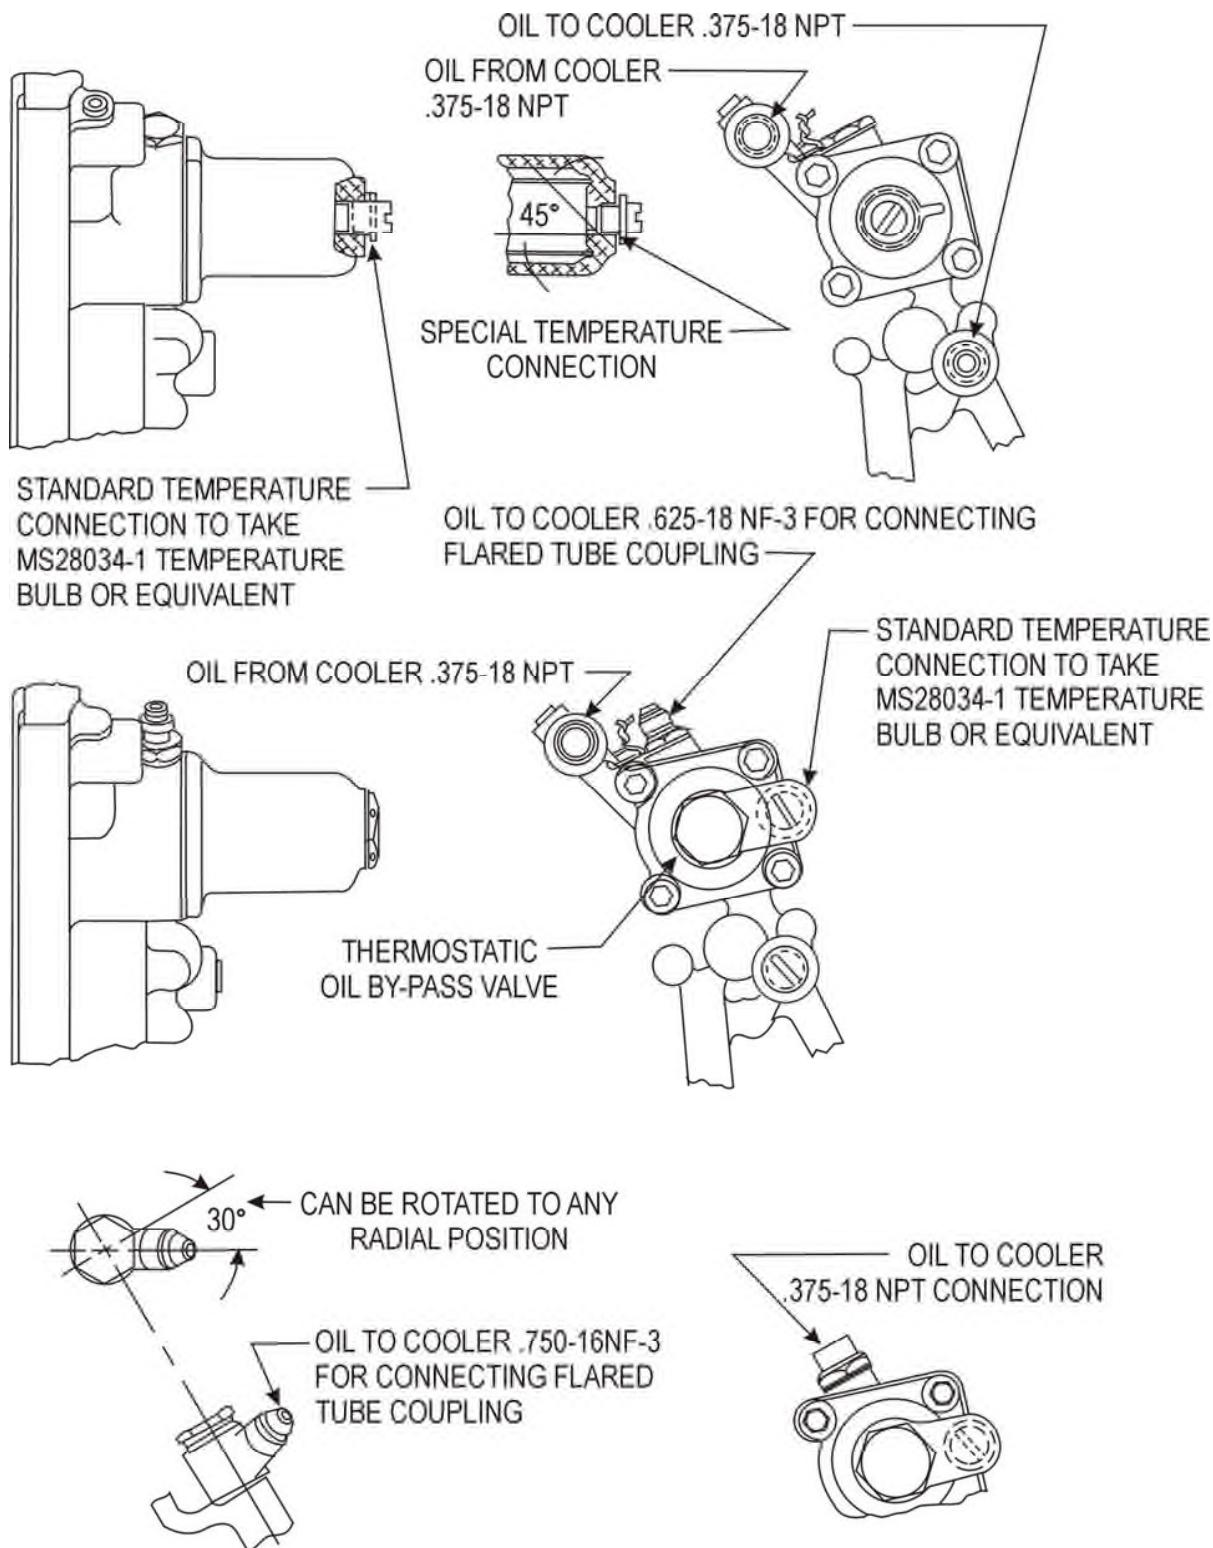

Figure 7-3. Optional Oil Cooler Connections
** SEE FIG. 7-3 FOR OPTIONAL CONNECTIONS
**SEE FIG. 7-3 FOR OPTIONAL CONNECTIONS
*SEE FIG. 7-3 FOR OPTIONAL CONNECTIONS